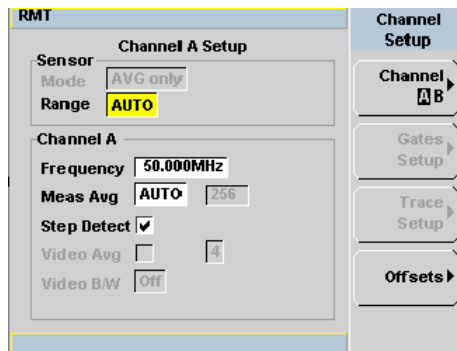

Figure 3-20 Channel Setup display
- 3 Press . The **Channel Setup** displays as shown in Figure 3-20.